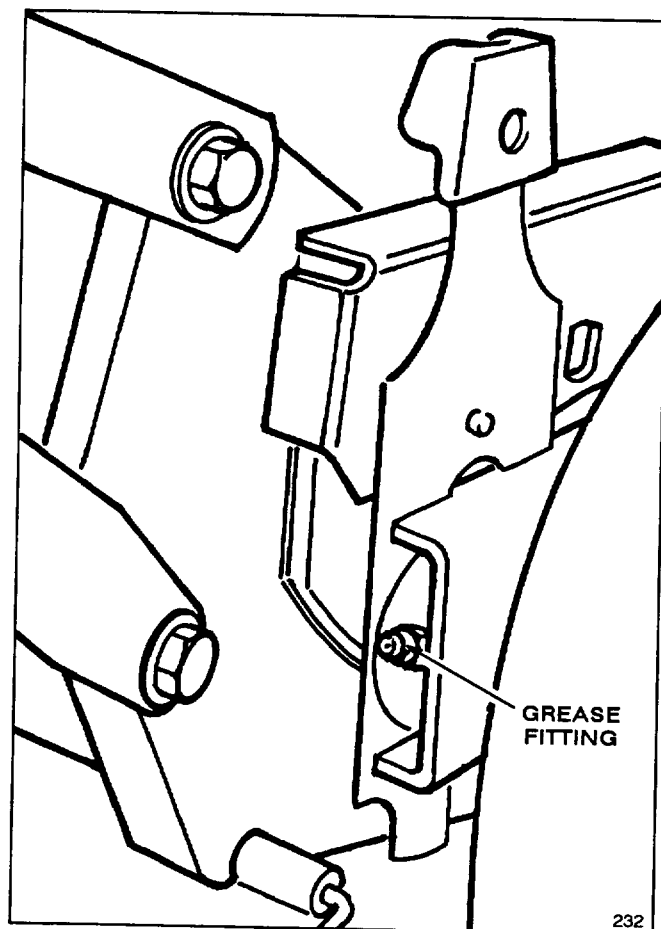

Figure 28
1. Move rear wheel height-of-cut levers to center setting. Wipe grease fittings with clean rag (Fig. 28). Install grease gun onto fitting and gently apply 2 or 3 pumps of #2 Multi-Purpose Lithium Base Grease. Excessive grease pressure may damage seals.